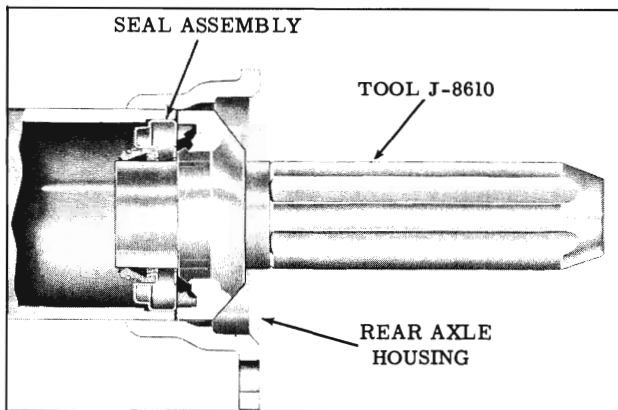

Fig. 6-136 Installing Axle Shaft Oil Seal
2. Position seal at axle housing and drive in with Tool J-8610 until tool is firmly seated. (Fig. 6-136) This will properly position seal.